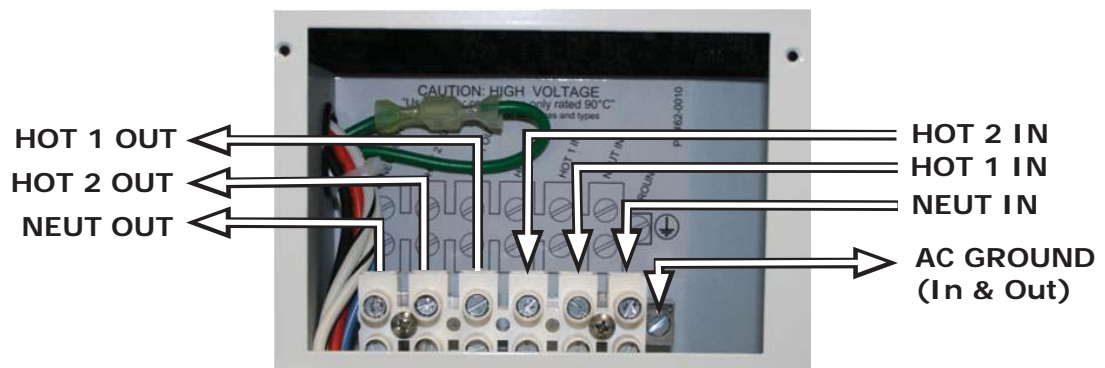

Figure 2-8, AC Terminal Block
The MS Series provides a terminal block (see Figure 2-8) that allows the AC input and output wiring to be permanently wired. This terminal block allows a service/distribution panel (main panel) to be wired to the inverter's input, and a dedicated panel (sub-panel)¹ between the inverter's output wiring and the AC loads. These systems use the circuit breakers provided in the panels as the overcurrent protection and the AC disconnect device.
1. Remove the two Phillips screws on the AC wiring access cover (Item 15, Figure 1-3) to access the internal AC terminal block (see Figure 2-8).